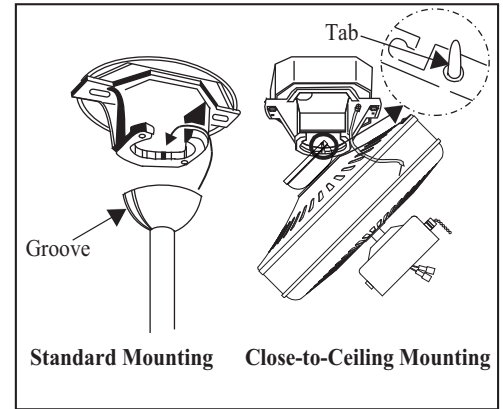

Figure 11
4. Carefully lift the fan assembly up to the ceiling mounting bracket and hang the fan on the tab provided by utilizing one of the holes at the outer rim of the ceiling canopy. (Figure 11) If using standard mounting, seat the hanger ball in the mounting bracket socket. Make sure the tab on the mounting bracket socket is properly seated in the groove in the hanger ball. (Figure 11)
THE TAB AS SHOWN IN FIGURE 11 IS ONLY TO BALANCE THE FAN WHILE ATTACHING WIRING. FAILURE TO HANG AS SHOWN IN FIGURE 11 MAY RESULT IN TAB BREAKING CAUSING THE FAN TO FALL. TAB MUST PASS FROM INSIDE TO OUTSIDE OF CANOPY.